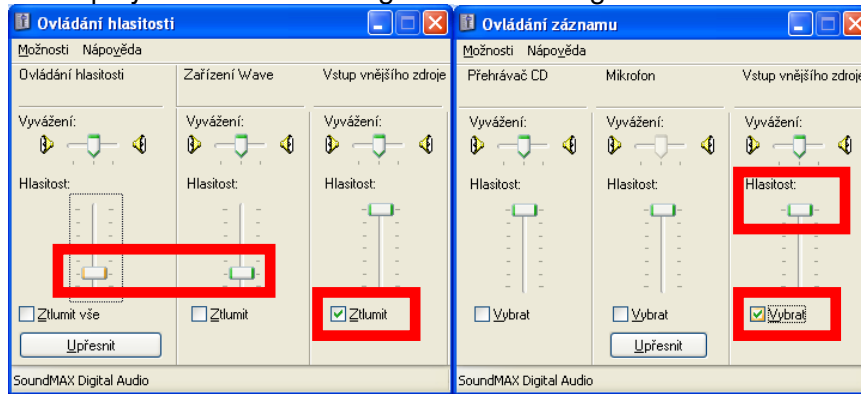

Fig. 2: Playback and record volume and source settings
4. Setup volume for playback and recording as shown in Fig. 2